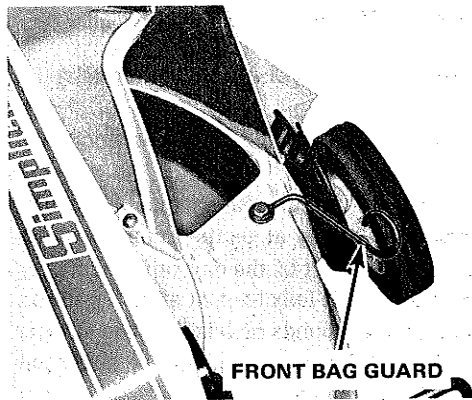

FIGURE 15
4. Install the front bag guard next to the right front wheel position as shown in Figure 15 and secure with the hardware required. The guard must hold the bag clear of the wheel.